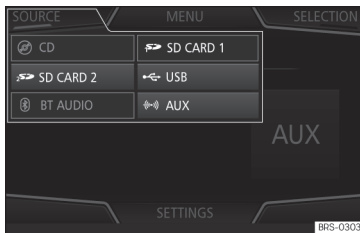

Fig. 193 MEDIA mode: change media source.
- **OR:** From the *Media* main menu, press the **SOURCE** function button **>>> Fig. 193** and select the desired media source.